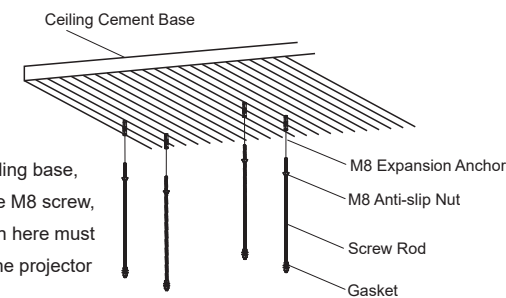

Figure 1
1. Select the installation location, (we recommend installing on the ceiling cement base) use an impact drill to drill holes for positioning, screw the M8 Expansion Anchor into the ceiling base, and then follow the order in Figure 1, sequentially put on the M8 screw, and tighten the installation. Note that the installation location here must ensure that it can bear the weight of the electric hoist and the projector to prevent the hoist from falling off and causing accidents.